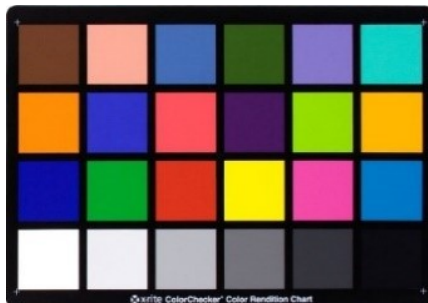

Fig. 5.14: Standard 24 color card
1. Prepare the 24 color card for calibration, as shown in Fig. 5.14, as well as the calibrated lens, Sensor and light box set as D65 light source.